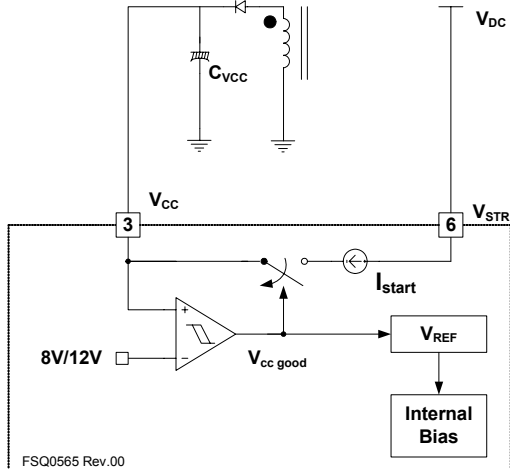

Figure 23. Startup Circuit
**1. Startup:** At startup, an internal high-voltage current source supplies the internal bias and charges the external capacitor ( $C_a$ ) connected to the  $V_{CC}$  pin, as illustrated in Figure 23. When  $V_{CC}$  reaches 12V, the power switch begins switching and the internal high-voltage current source is disabled. The power switch continues its normal switching operation and the power is supplied from the auxiliary transformer winding unless  $V_{CC}$  goes below the stop voltage of 8V.